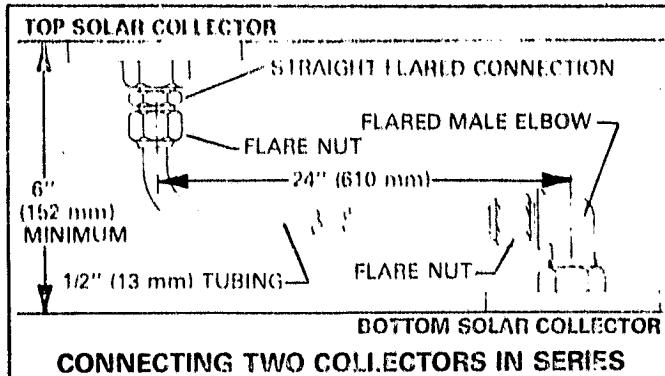

FIGURE 15
- a - Figure 15 illustrates two solar collectors piped in series. Install a flare male elbow at the bottom collector and a flare male straight connection at the top collector